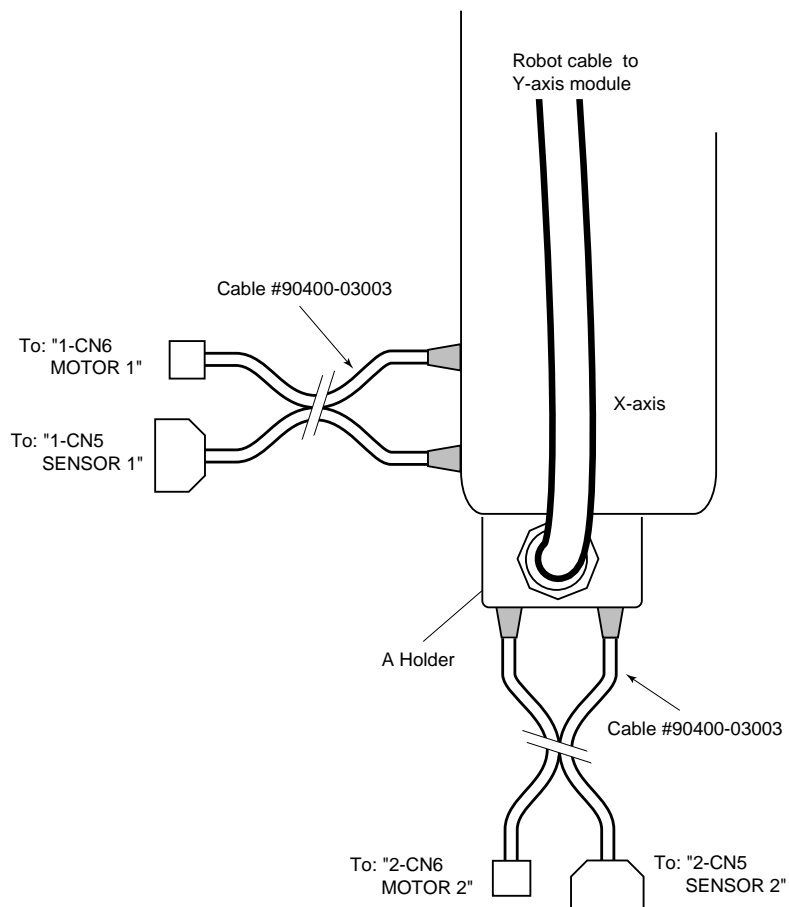

Figure 4-5. Connecting to an EXA or EXC Controller
- a. Connect the two barrel ends of the cable to the X-axis module as shown in Figure 4-5. These connectors have different pin sizes and cannot be installed incorrectly. The other ends connect to the controller connections marked “1-CN6 MOTOR 1” and “1-CN5 SENSOR 1”.
- c. Connect the two barrel ends of the cable to the Y-axis module as shown in Figure 4-5. These connectors have different pin sizes and cannot be installed incorrectly. The other ends connect to the controller connections marked "2-CN6 MOTOR 2" and "2-CN5 SENSOR 2".